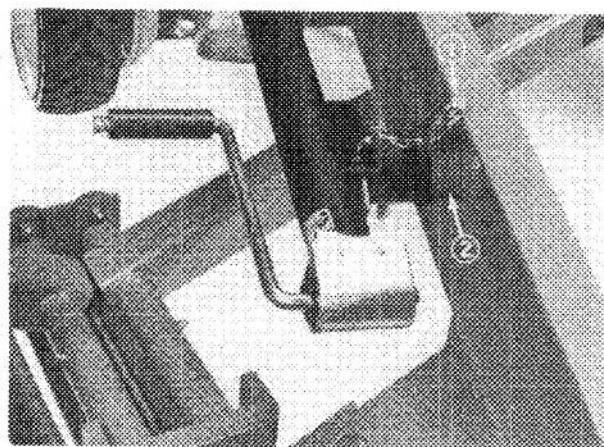

Figure 2
1. Remove jack from storage position by removing pin and sliding jack off storage tube (Fig. 2).